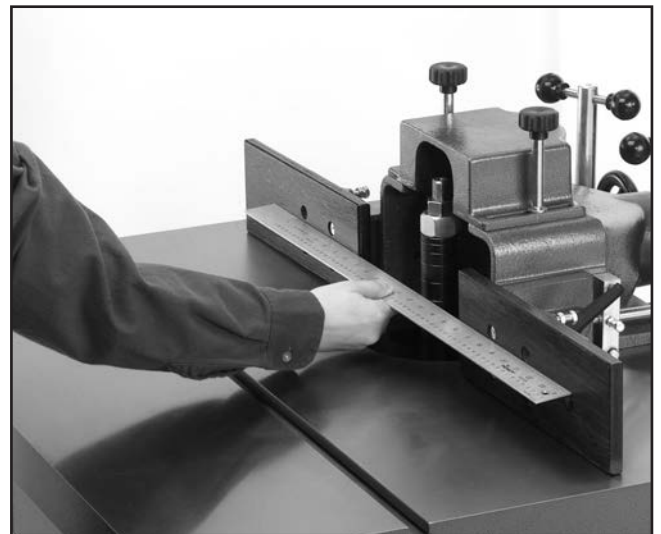

Figure 27. Aligning fences with straightedge.
2. To align the wood facing, adjust one or both fence halves so they are in close alignment. Micro-adjust and check the alignment with a straightedge as shown in **Figure 27**.